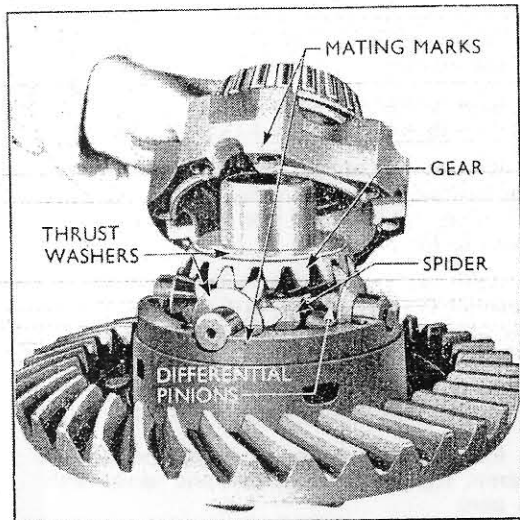

Fig. 4
2. Lift off the top half of the differential case and remove the differential spider, gears, pinions and thrust washers. (See Fig. 4.)